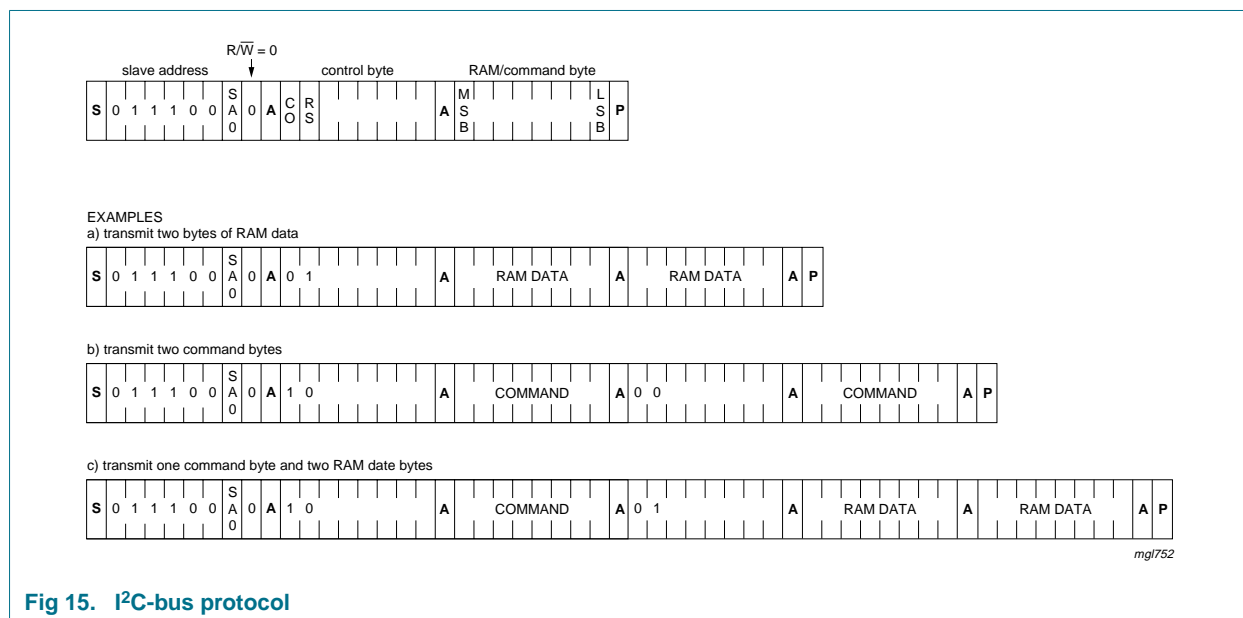

Fig 15. I²C-bus protocol
The I²C-bus protocol is shown in Figure 15. The sequence is initiated with a START condition (S) from the I²C-bus master which is followed by one of the available PCA85133 slave addresses. All PCA85133 with the same SA0 level acknowledge in parallel to the slave address. All PCA85133 with the alternative SA0 level ignore the whole I²C-bus transfer.